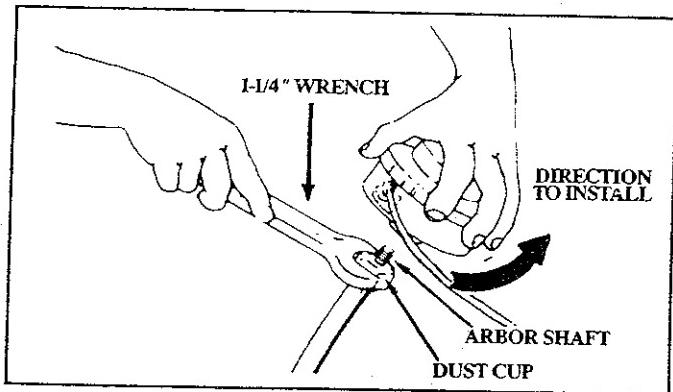

Figure 2
2. TRIMMER HEAD — Figure 2
- b. Hold the Dust Cup with a wrench to keep the Dust Cup from turning. Figure 2.
- c. Thread the Trimmer Head clockwise → (from the engine end) onto the Arbor Shaft, against the Dust Cup, and as tight as possible with your hand. Figure 2.